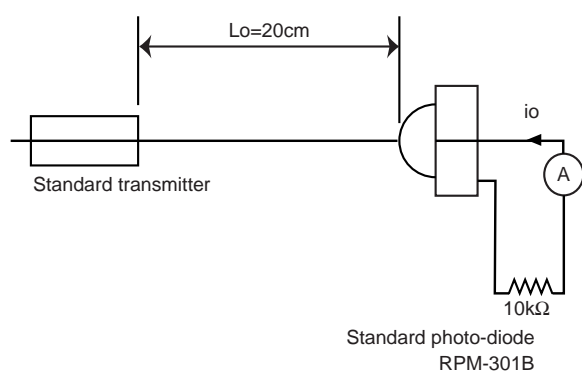
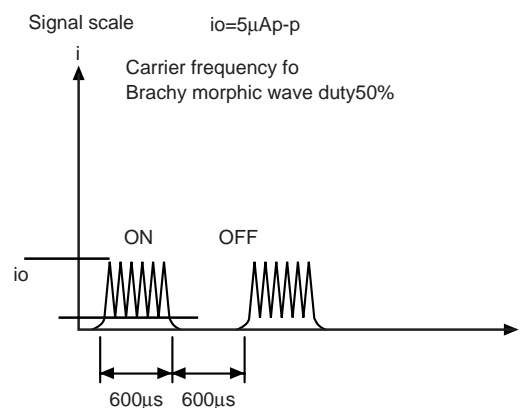

Fig.2 Measurement of standard transmitter proofreading
Fig.3 Standard photo diode current
When standard transmitter output the signal at Fig.1 standard photodiode output become $i_o=5\mu\text{Ap-p}$ (Fig.3) under the measurement condition Fig.2.
(1) All characteristics of the receiver in this specification are specified by supplying burst wave form (Fig.1) with ROHM standard transmitter (Fig.2).